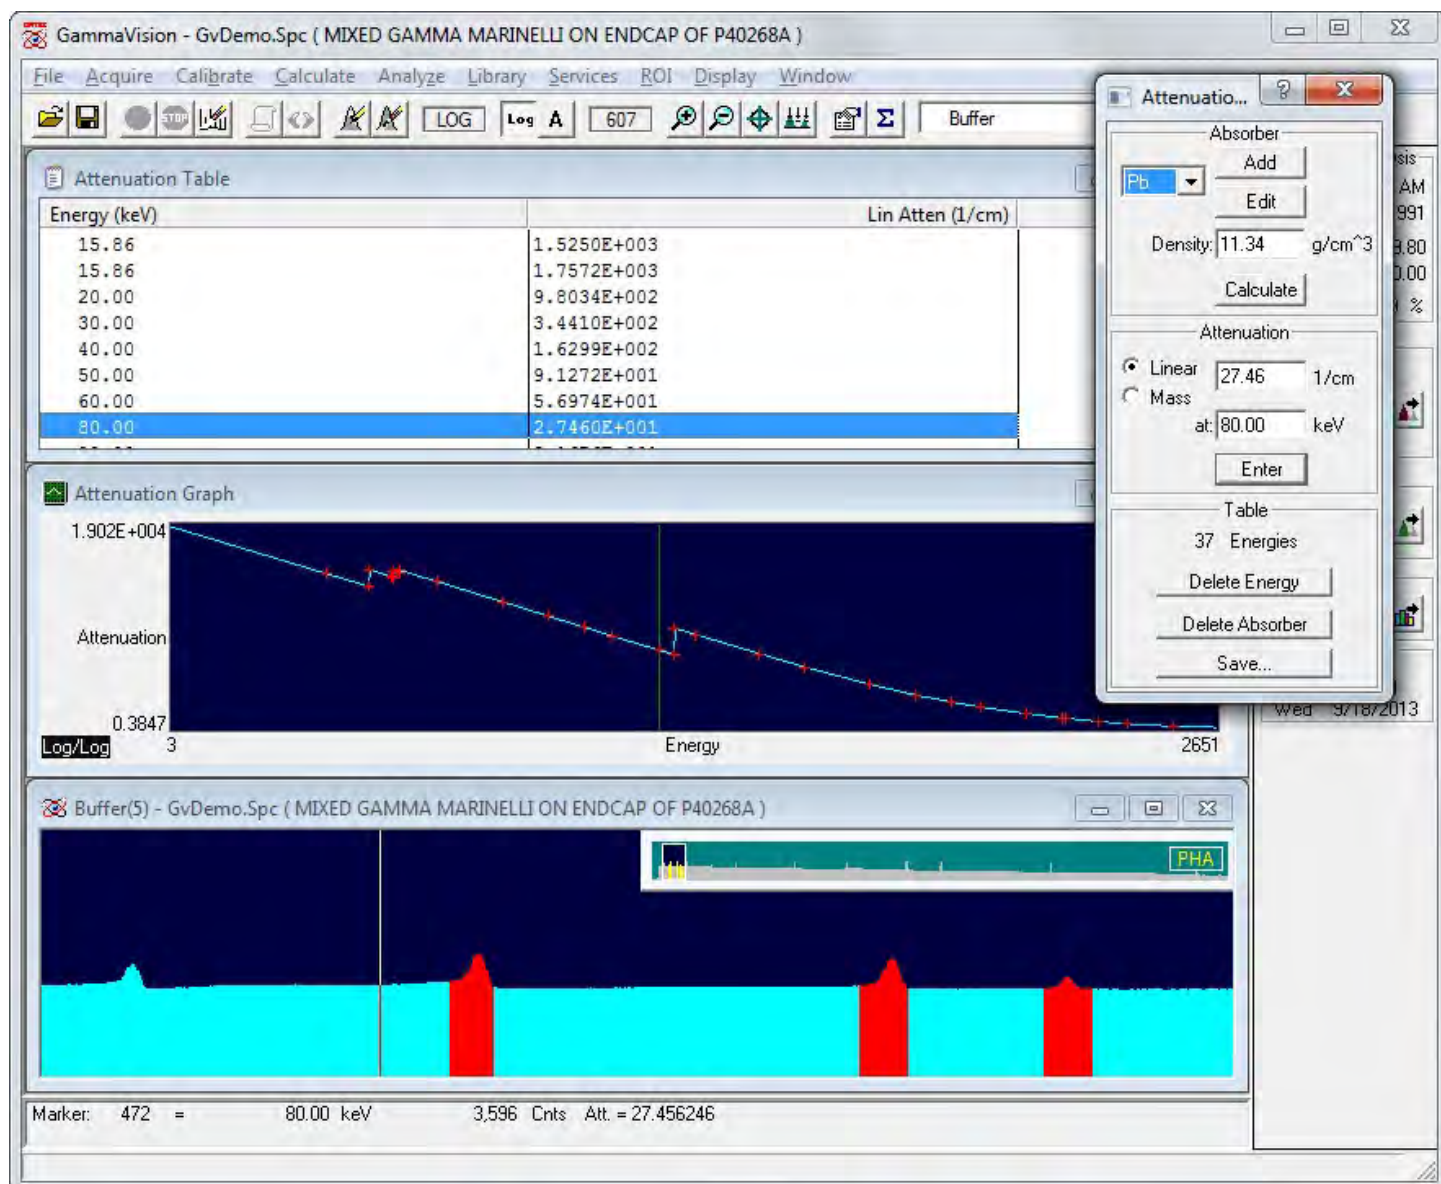

Figure 147. Attenuation Worksheet Table for Absorber Coefficient Table.
Selecting **Coefficient Table** opens the Attenuation Worksheet Sidebar, Attenuation Table, and Attenuation graph window, as illustrated in Fig. 147.
- 7) Next, enter the mass or density as shown in the **Absorber** section at the top of the sidebar (Fig. 147), and click **Calculate**.
In the automatic mode, select the **UFO Files** for the analysis of two spectra (**Reference** and **Current**) and click **Calculate**. *These two spectra must be the spectrum without the absorber and the spectrum with the absorber.* The two samples should be otherwise as similar as possible. This will produce a table that is the ratio of the net peak areas for all the peaks that are in both spectra. The matching is done by using the identified (library) peak list in both .UFO files. The calculated table is now displayed as shown in Fig. 147.